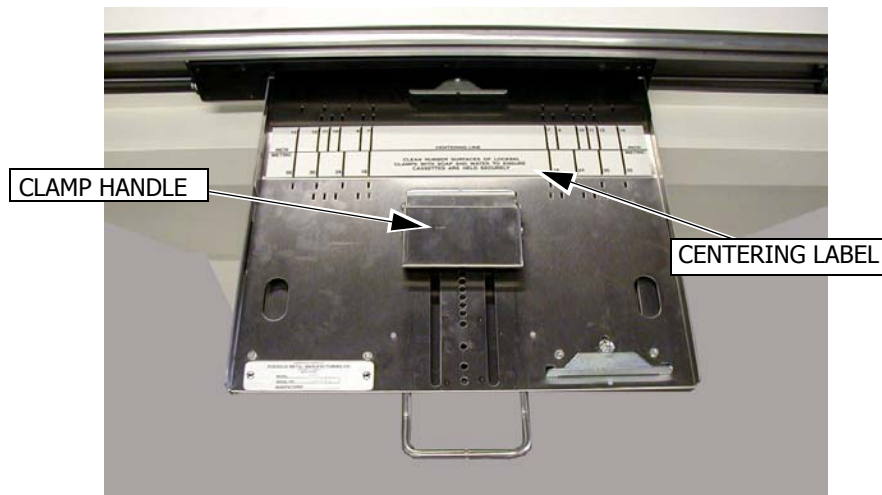

Figure 4-4. Poersch Film Cassette Tray
1. Pull the cassette tray from the Receptor Cabinet using the tray handle (see Figure 4-4).